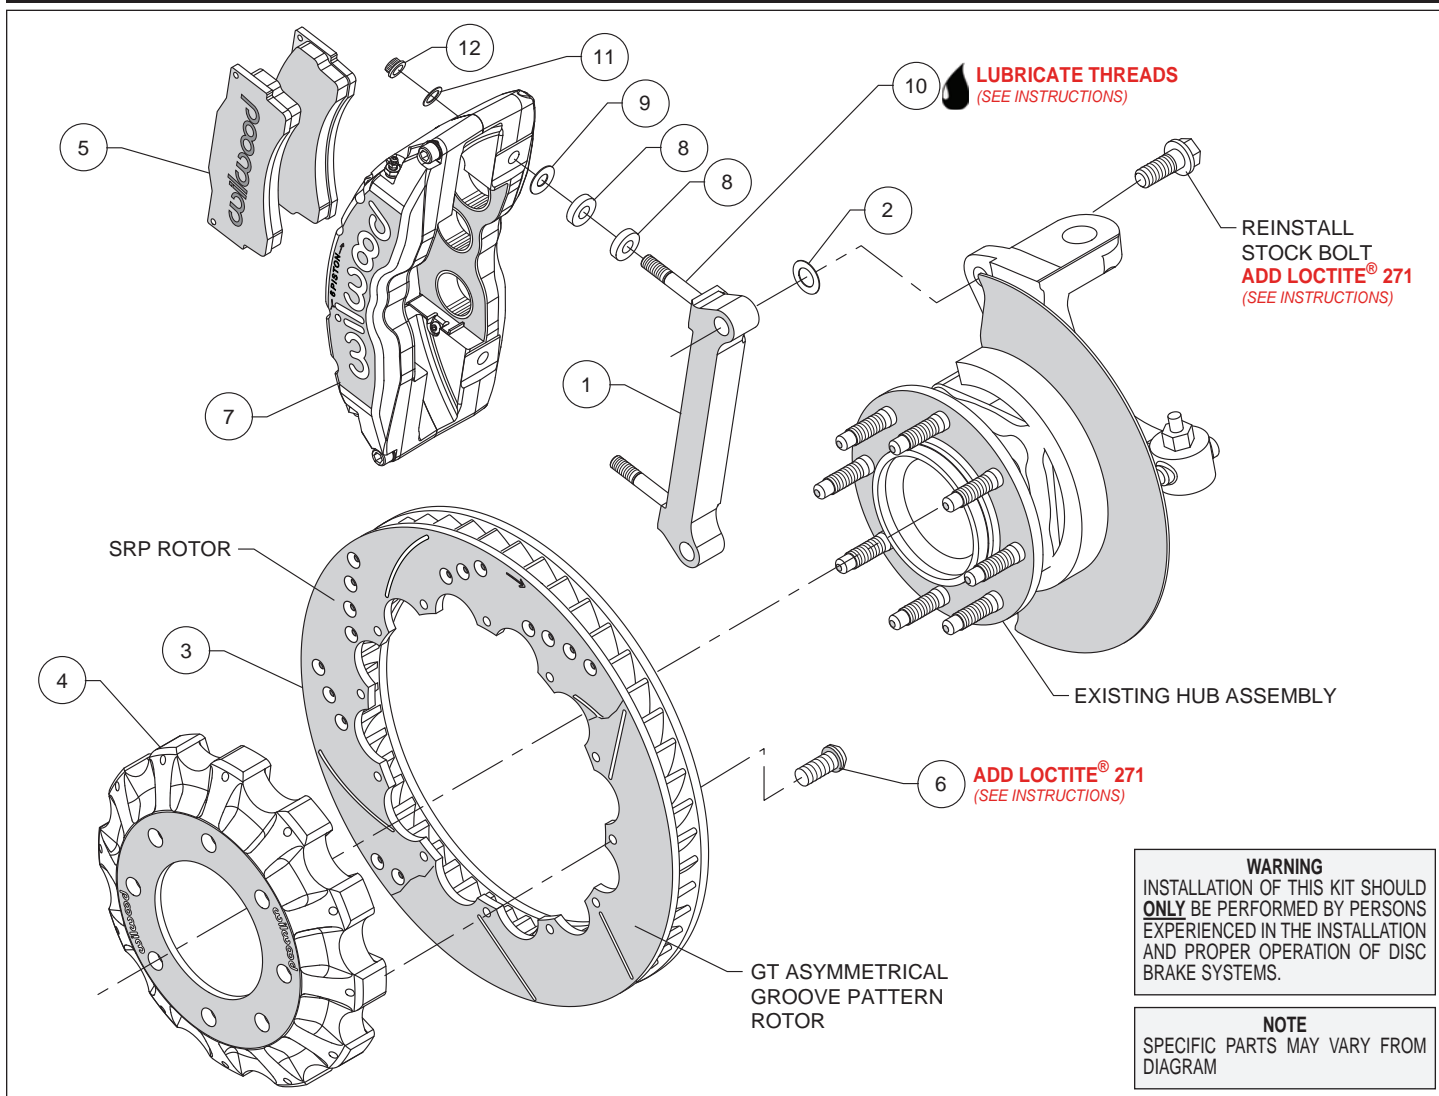

Figure 1. Typical Installation Configuration
- The caliper mounting bracket assembly (1) should be installed first with clean, dry threads on the mounting bolts. Install the bracket to the outboard side of the spindle by sliding the stock bolt through from the backside into the bracket(1). Place shim washer (2) between the bracket (1) and the spindle (see Figure 1). The bracket must tighten squarely against the side of the spindle body. Inspect for interference from casting irregularities, machining ridges, burrs, etc. Use one thin shim (2) between the bracket (1) and spindle during initial trial fitting.
- With the larger I.D. side of the rotor (3) facing away from the hat (4), attach rotor (3) to hat (4) using bolts (6) as shown in Figure 1. Finger tighten. Using an alternating sequence, remove bolts (6) one at a time, apply red *Loctite*® 271 to the threads and torque to 25 ft-lb.
- NOTE:** *Please reference the caution statement at the beginning of the assembly instructions.* Install two spacers (8) and one shim washer (9) over each pre-installed stud (10) on the radial mount bracket (1). Slide the caliper (7) in place over the studs and rotors and install the washer (11) and lock nut (12) to hold the caliper in place. The caliper bleed screws should be pointing up. Snug the lock nuts (12) and check that the rotor (3) is centered in the caliper (7). Add or subtract .024" shims (2) as necessary between the caliper mounting bracket (1) and the spindle to center the caliper (7).
- Remove the two caliper center bridge pad retainer bolts, nuts, tubes, and anti-rattle spring from the caliper. Slide the brake pads (5) into place. They should install easily without interference. Check that the outside radius of the brake pad is aligned with the outside diameter radius of the rotor face. Add or subtract shims (9) between the caliper and mount bracket to gain the proper alignment. Reinstall the center bridge pad retainer tubes, bolts, locknuts and anti-rattle spring. The locknut should be snug without play in the bolt or tube. Be cautious not to over tighten.
- Once all clearances have been checked, remove the wheel, caliper, hat, and rotor from the spindle and hub. Secure the caliper mounting bracket (1) to the spindle with stock bolts using red *Loctite*® 271. Torque the bolts to manufacturer's specification. Reinstall the hat and rotor assembly and again use lug nuts to hold it in place. Lubricate caliper mounting studs and nuts with lightweight oil, reinstall the caliper, torque the caliper nuts (12) to 47 ft-lb.